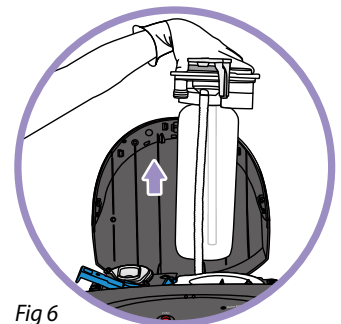

Fig 6
7. Pull up on the SmartFlo™ water cartridge (Fig 6). Do not squeeze the water reservoir as water could leak out.